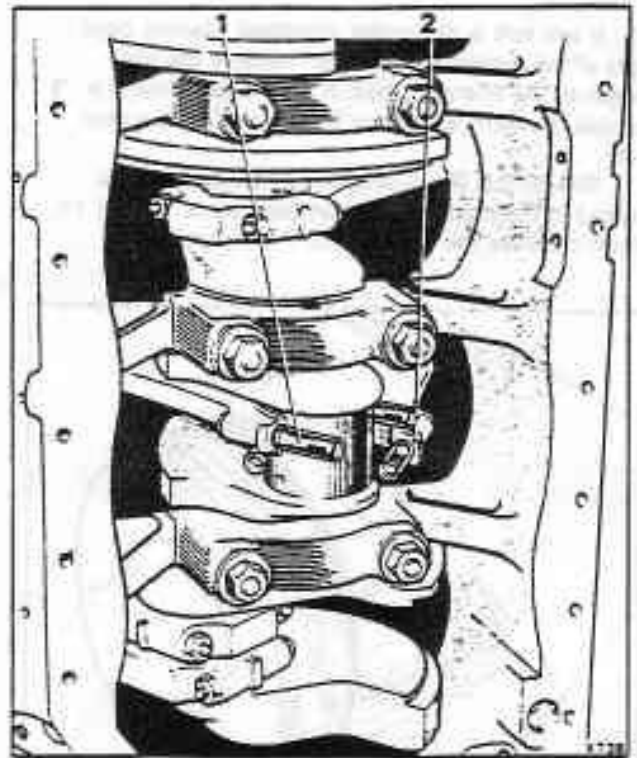

Fig. E6-5 Removing the big-end bearing shells
20. Fit protective rubber sleeving over the connecting rod bolts to prevent damage to the crankshaft (see fig. E6-5). Do not remove the connecting rod bolts.